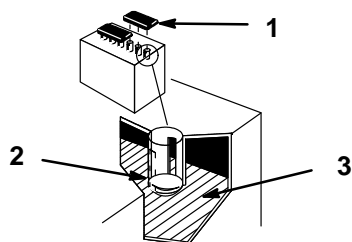

Figure 37
1. Open covers to see into the cells. The electrolyte must be up to the lower part of the tube (Fig. 37). Do not allow the electrolyte to get below the plates. (Fig. 37).
2. Lift off the filler caps (Fig. 37).
3. Slowly pour distilled water into each battery cell until the level is up to the lower part of the tube (Fig. 37).